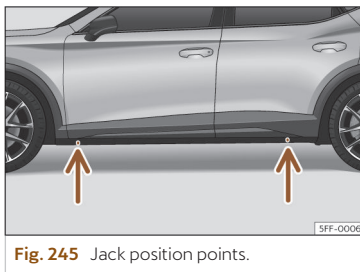

Fig. 245 Jack position points.
- Look on the crossbar for the mark of the jack support point (sunken area) closest to the wheel to be changed >>> **Fig. 245**.